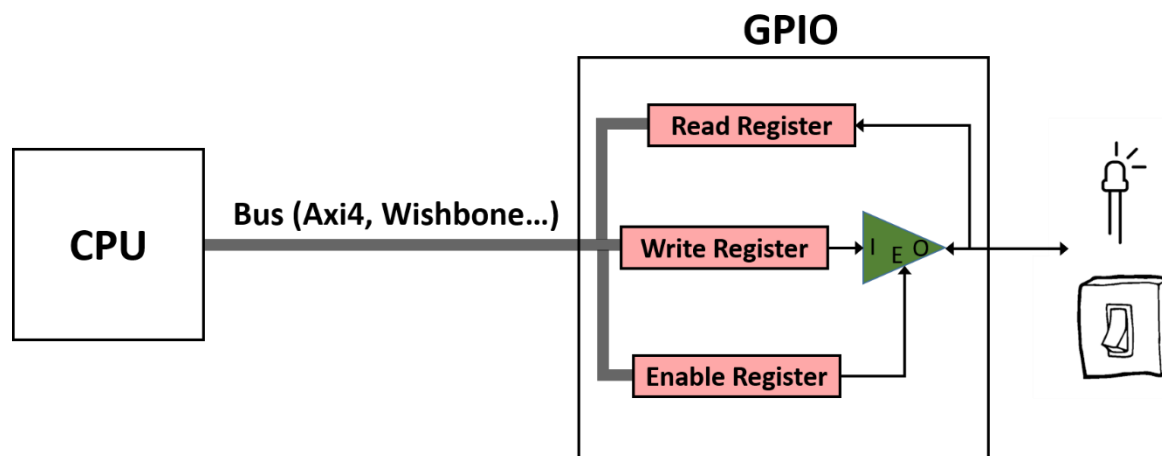

Figure 3. GPIO simplified circuit
Figure 3 illustrates a simplified diagram for a generic GPIO module connecting one external pin to the CPU. The pin can be connected to any input/output device, such as an LED, a switch, etc. The pin is connected to a tri-state buffer, highlighted in green in the figure. This buffer allows the programmer to configure the pin as either an input or output. If the tri-state buffer is enabled, the pin acts as an output (for example, for driving an LED). If the tri-state buffer is disabled, the pin acts as an input (for example, for reading from switch values).
A tri-state buffer can either act as a regular buffer (when it is enabled) or have a floating output (when it is disabled). The tri-state buffer has two inputs, E (enable) and I (input), and one output, O, and its truth table is shown in Table 1. When E is 1, the tri-state acts as a regular buffer with the output (O) and input (I) being the same. When E is 0, no connection exists between the input and output and the output (O) is not driven; O is floating. In Figure 3, to configure a pin as an output, E is 1, which allows the CPU to drive the pin. When a pin is configured as an input, E is 0, which keeps the CPU from driving the pin and allows the peripheral to drive it.
The RVfpgaEL2 System uses memory-mapped I/O to read/write the values stored in these registers. For example, assume that the pin from Figure 3 is connected to a switch and that the three registers in the GPIO are mapped as follows:
Although OpenCore's GPIO module is more complex than the simplified version illustrated in Figure 3, we can still identify the three registers from Figure 3: Read (input), Write (output), and Enable. In the OpenCore's GPIO module, these registers are called, respectively: RGPIO_IN, RGPIO_OUT and RGPIO_OE and are mapped to addresses 0x80001400, 0x80001404, and 0x80001408 respectively.